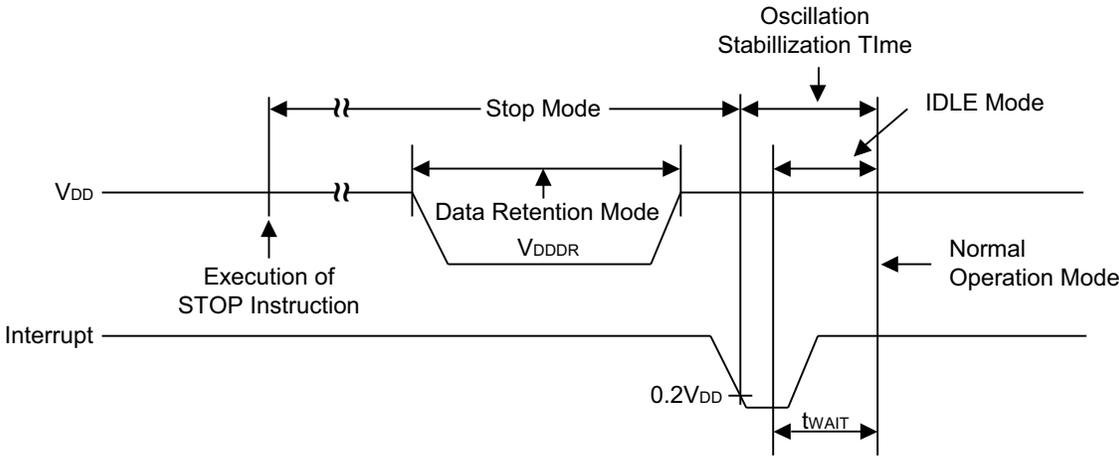

Figure 123. Stop Mode Release Timing Initiated by Interrupts
► **Note:** In Figure 123,  $t_{WAIT}$  is the same as  $16 \times 1 / f_{BT}$ ;  $f_{BT}$  = the basic timer clock selection.